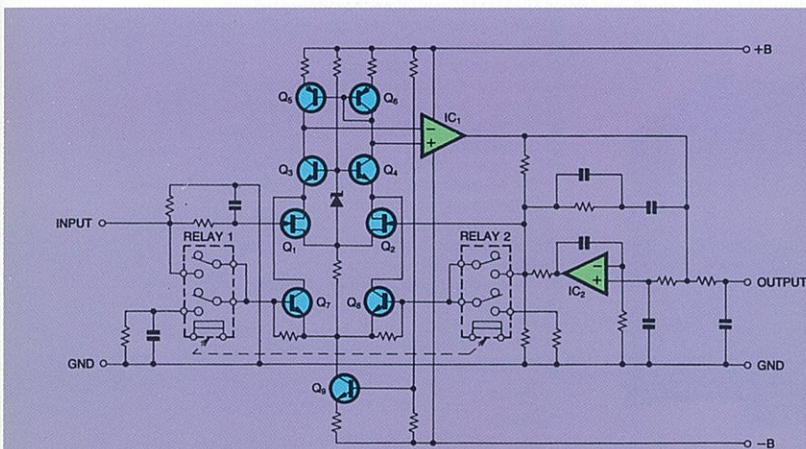

Fig. 3 Circuit diagram of equalizer amplifier
Although digital program sources are becoming ever more popular, high-quality reproduction of analog records is still an important consideration for the true audiophile and music lover. The E-405 is designed to excel in this respect also, with a no-compromise phono stage designed to deliver top-notch performance. Fig. 3 shows the circuit configuration of this stage. Separate input circuits are provided for moving-coil (MC) and moving-magnet (MM) cartridges, to bring out the advantages of each design.